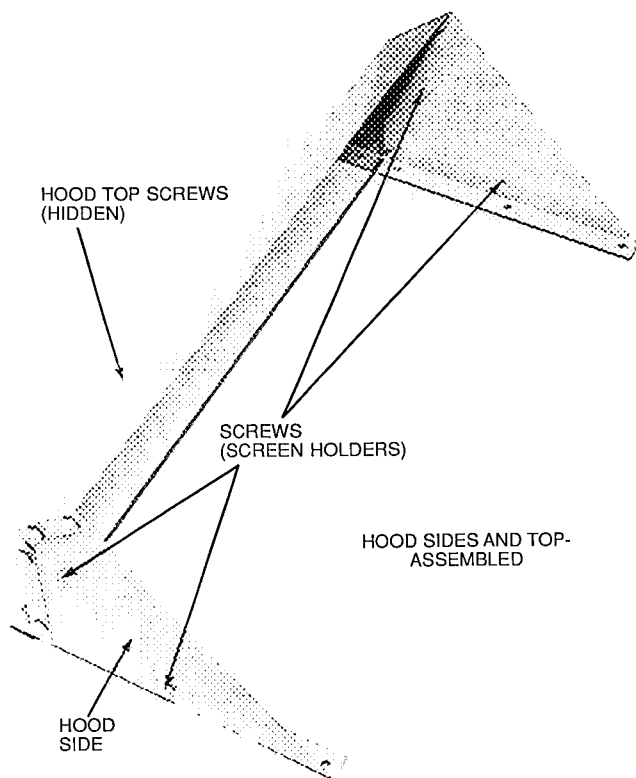
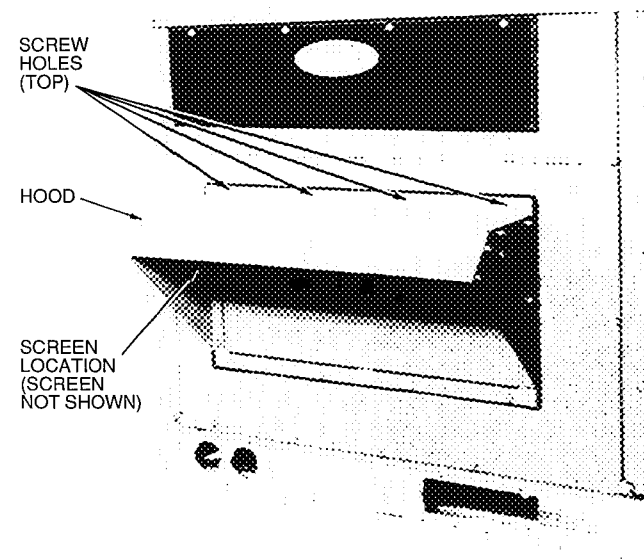

Fig. 12 - Outdoor-Air Hood Details
Fig. 13 - Outdoor-Air Damper With Hood Attached
- Place hood on front of evaporator coil access panel. See Fig. 12 for hood details. Secure top of hood with the 4 screws removed in Step 3. See Fig. 13.
- Align screw holes on hood with screw holes on side of manual outdoor-air damper assembly. See Fig. 12 and 13. Secure hood with 6 screws from Step 6.
- Remove and save screws currently on sides of hood. Insert screen. Secure screen to hood using the screws. See Fig. 13.